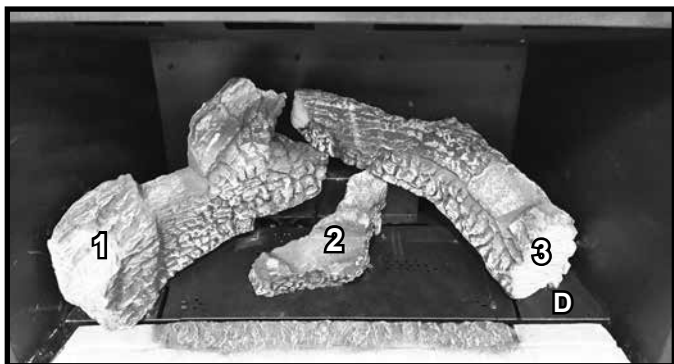

Figure 5. Log #3 Installed
**LOG #3:** With the burnout of Log #3 facing left, set the large end against log pin D, place the small end on the flat spot of Log #1. See Figure 5.